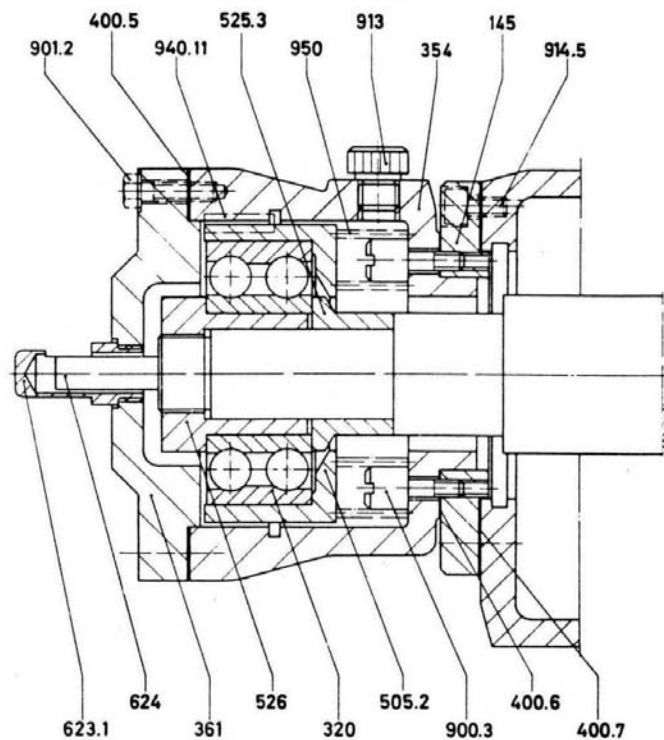

Figure 40 – Lift-off device: anti-friction bearings
5. Mount the upper bearing shell (370), bearing end cover (361) and upper bearing housing (350). Fasten the bearing housing using tapered pins. Bore and ream the holes if necessary.
6. Mount the rotor position indicator (623.1) plus actuating pin (624) on the discharge end.
7. Check the markings on the rotor position indicator with the balance disc (601) in contact with the balance counter disc (602), if necessary make a new marking (see section 9.1.1 – Rotor position indicator).
8. If the pump is supplied with lift-off device in the bearing casing according to figures 40, 41A and 41B and follow sequence of items 5 and 6 above. If also a gear pump directly connected to the pump shaft is supplied, consider for assembly, the details indicated in the figure 42.